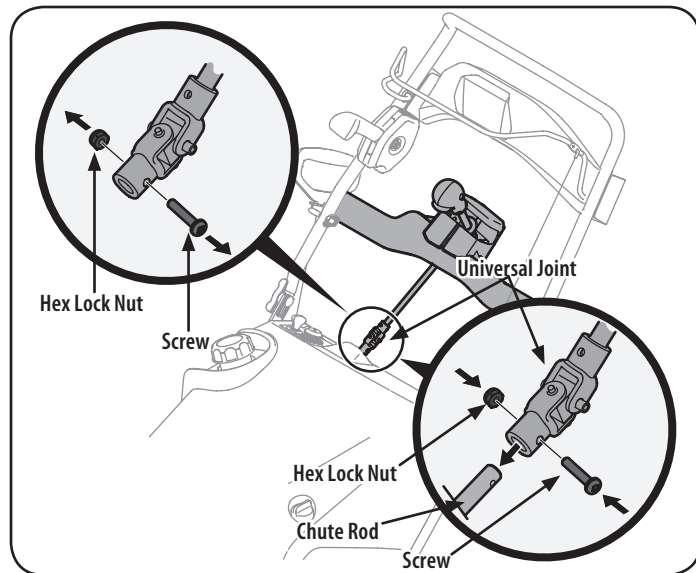

Figure 8
3. Remove the screw and hex lock nut from the universal joint. See Figure 8.
4. Install the universal joint on the end of the chute rod. See Figure 8.
5. Secure the universal joint with the hex nut and screw previously removed. See Figure 8.